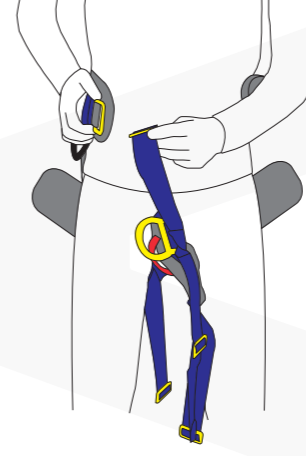
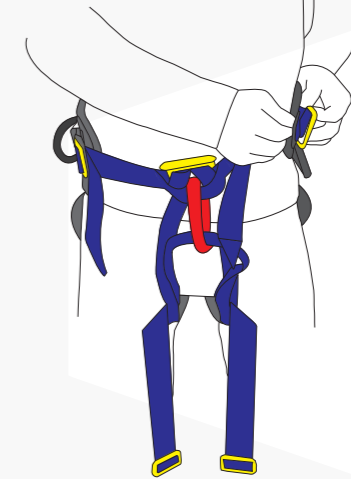

Fig 3
Fig 4
4. Fasten the waist belt (Fig 3), following the relevant buckle instruction diagram, then tighten the belt and centralise the belay loop. (Fig 4)